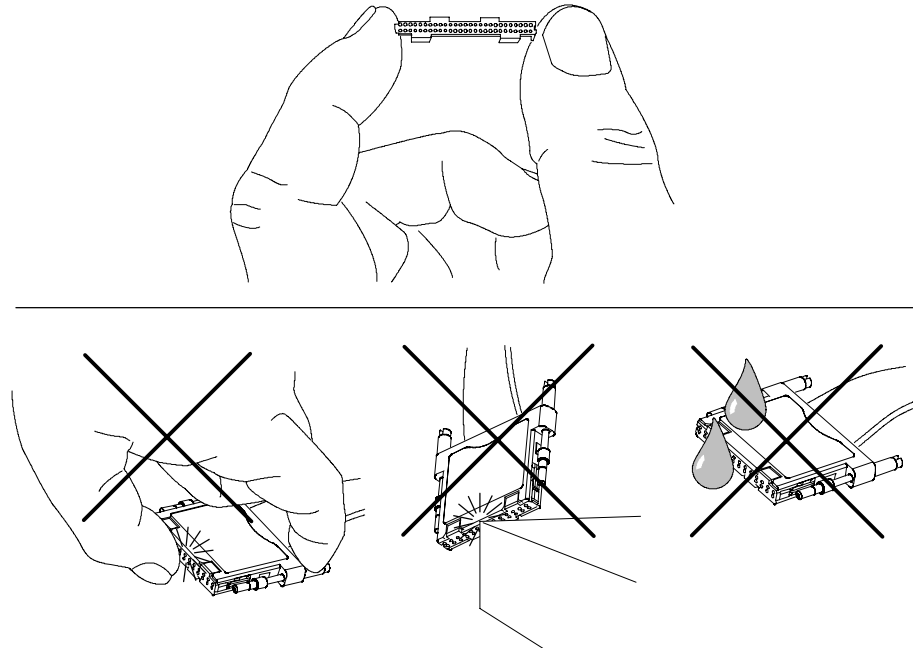

Figure 10: Proper handling of the interface clip
- The cLGA interface clips should always be handled by the outer edges, being careful to avoid the contacts in the center. Contacts should not be touched with fingers, tools, wipes, or any other devices. See Figure 10.